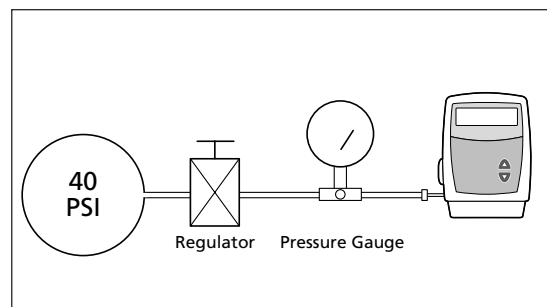

Figure 13. Occlusion test set-up.
3. Assemble the apparatus as shown in Figure 13.